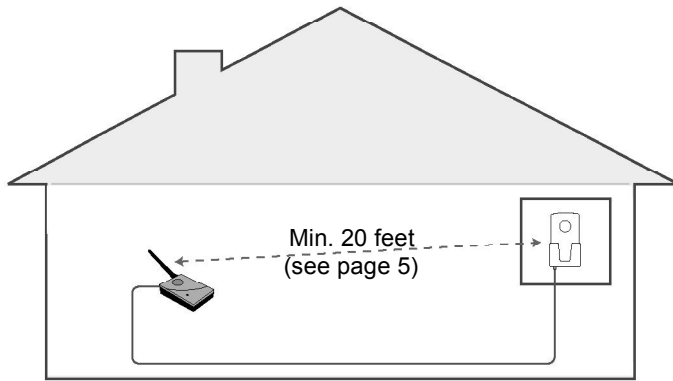

Figure 17
3. Ensure that the distance between the on-board antenna and the cradle antenna is a minimum of 20 feet (see Figure 17). If you are using a different antenna configuration, see the separation guidelines for your specific antennas or call Wilson's Technical Support department at 866-294-1660 or 435-673-5021.